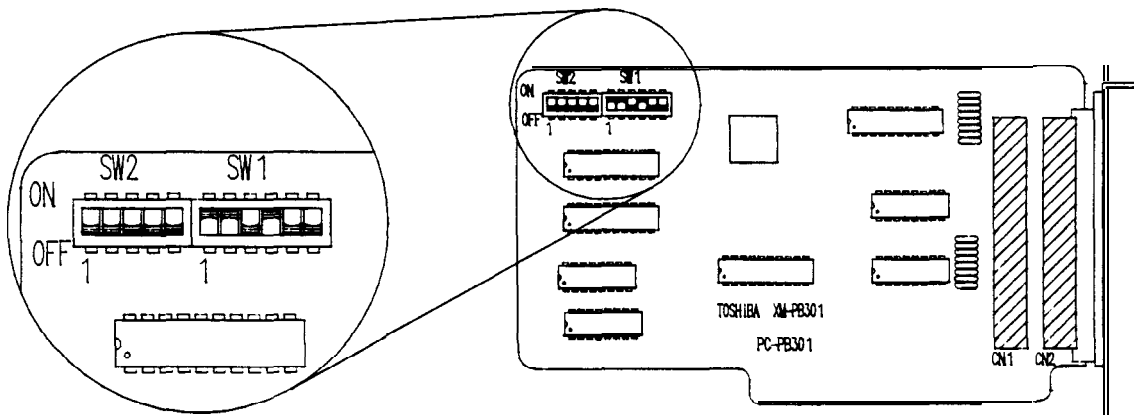

Figure 1. Dip Switch settings for Optical Drive Controller Board.
13. Check the Dip switch settings on the Optical Drive Controller Board to insure that they are set proper according to Figure 1.